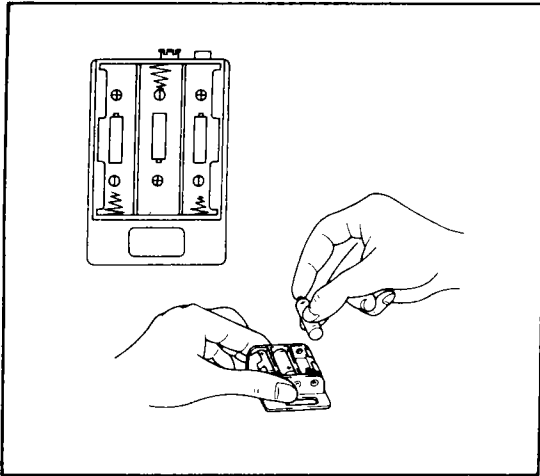

Figure 5-19.
- (6) Insert new batteries. Be sure to insert the new batteries with the polarity (+ and -) the same as indicated inside the cartridge case. (See Figure 5-19.)